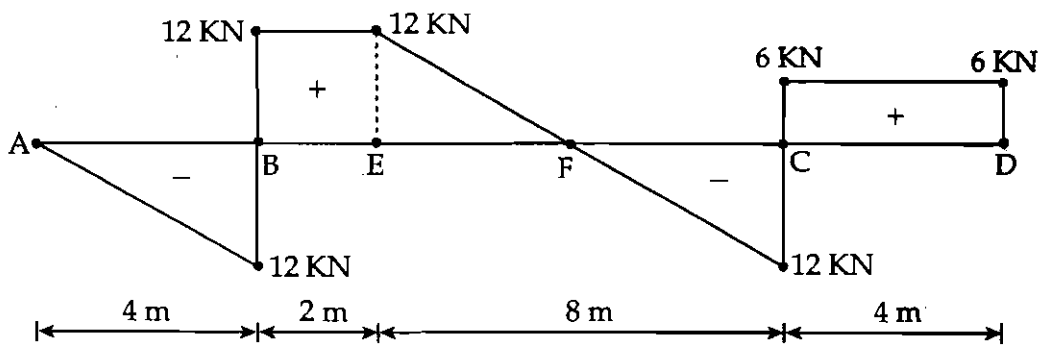

Figure 1
1. (a) A beam ABCD supported at B and C has over hangs AB and CD. The shear force diagram for the beam is shown in Figure 1. Determine the loading diagram with couple at pt. F and the bending moment diagram. 10